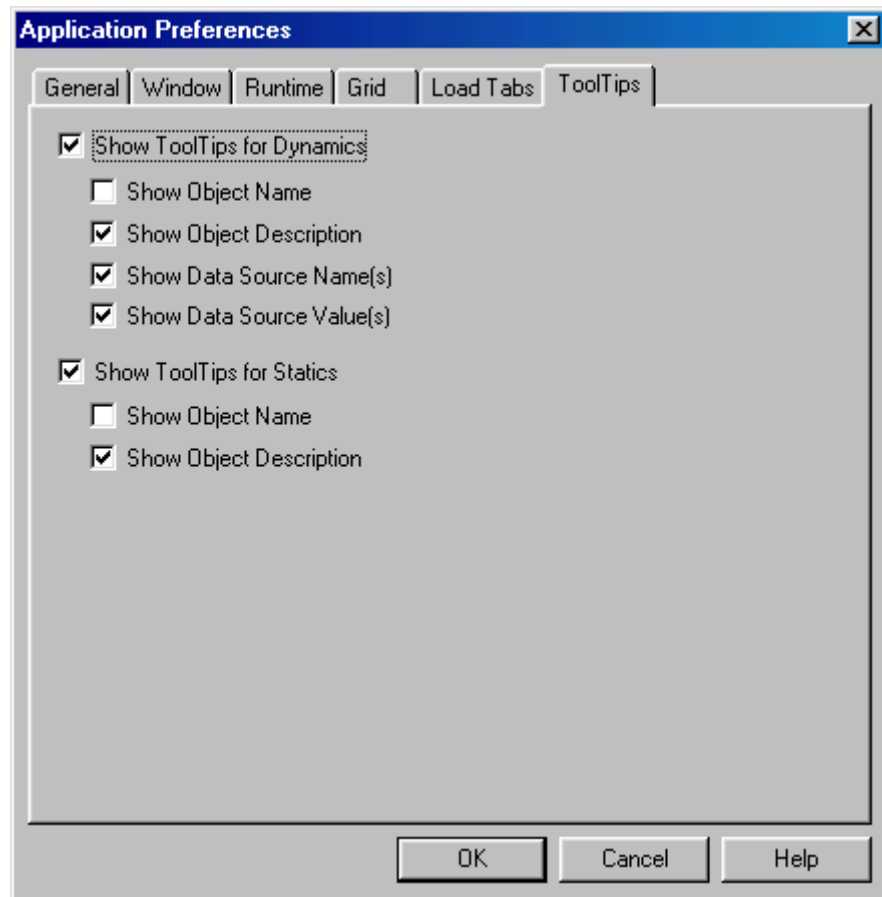

Figure 4-10: Display Properties: ToolTips Tab
2. Select the ToolTips tab (Figure 4-10).